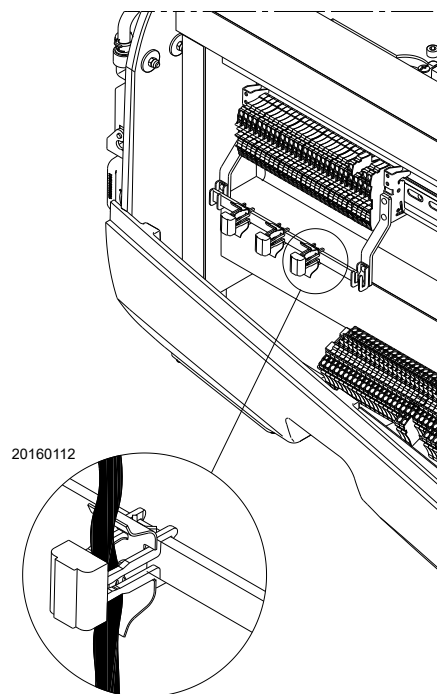

Fig. 33
- 1 The connection from the Inverter to LMV52.... must be done as shown in Fig. 33.
- 2 Possible pressure/temperature probes and O₂ sensor connection must be done as shown in Fig. 33.
- 3 Possible pressure/temperature probes and O₂ sensor connection must be done as shown in Fig. 33.